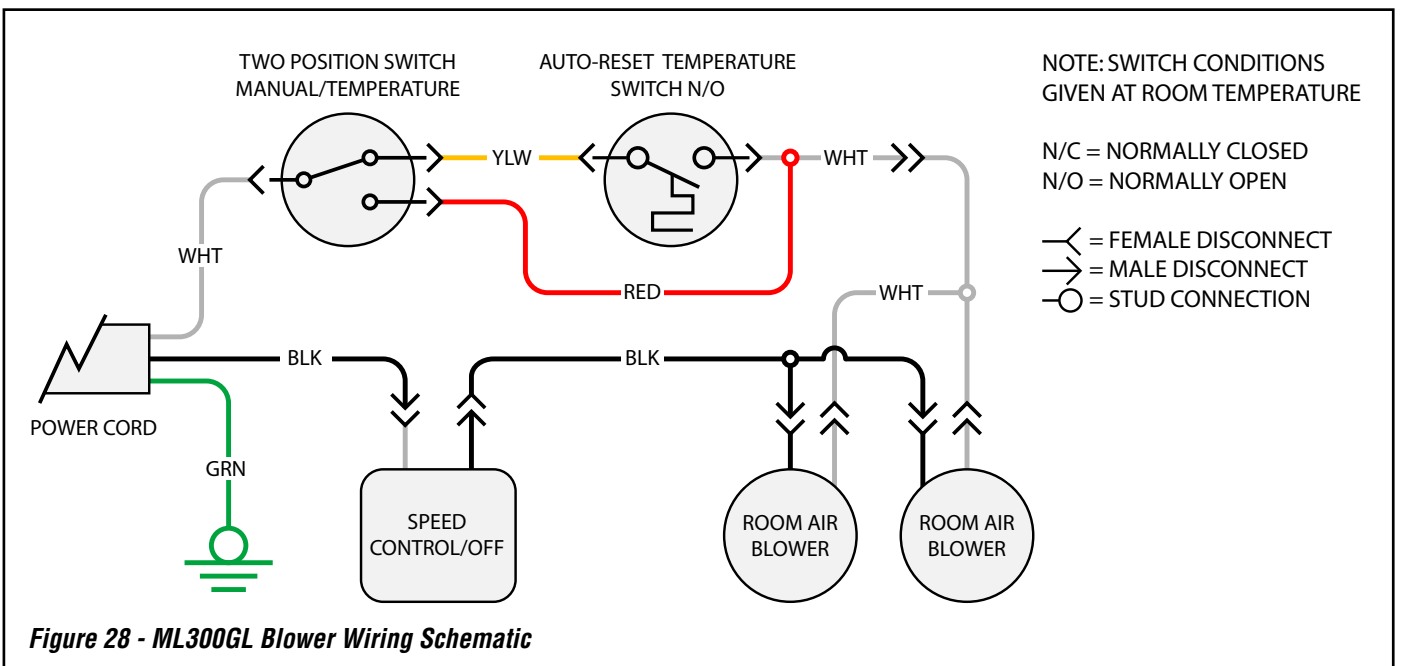

Figure 28 - ML300GL Blower Wiring Schematic
7. For best results, use smaller pieces of wood to get the appliance temperature very high before loading larger wood for sustained burns. If necessary, crack the door to allow ignition of the fuel charge. Do not leave the unit unattended while the front door is slightly open. Now you can add larger pieces of wood and after several minutes of high burn, set the left control for the desired heat output. Check the exhaust in about 15 to 20 minutes (see **Figure 28**). Large amounts of smoke indicate an improper burn setting (either too high or too low). Adjust and recheck in 5 to 10 minutes.